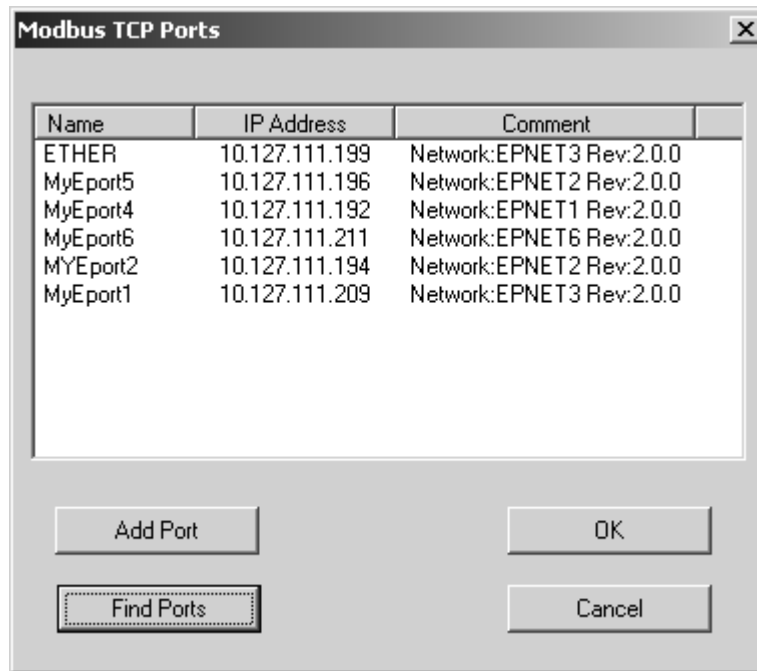

Figure 4-2. Modbus TCP Ports Dialog
3. Select the **Ethernet Ports** option on the menu. *The Modbus TCP Ports Dialog* (Figure 4-2) will be displayed.